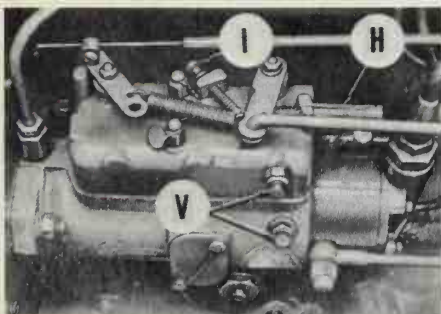

Fig. C1-1—Typical view of fuel injection pump. Loosen vent screws (V) to bleed fuel. Turn screw (I) to adjust idle speed or screw (H) to adjust high speed.
Idle speed should be 800-1000 rpm and is adjusted by turning idle speed screw (I—Fig. C1-1). Maximum governed
BLEED FUEL SYSTEM. To bleed fuel system, remove bleed screw on fuel filter body. Allow gravity to force fuel flow or operate priming lever on fuel transfer pump until air-free fuel flows, then reinstall filter body bleed screw. Loosen injection pump bleed screws (V—Fig. C1-1) and operate fuel transfer pump priming lever until air-free fuel flows, then tighten bleed screws (V). Loosen fittings for high pressure injection lines at injectors. Rotate engine crankshaft to operate fuel injection pump until air-free fuel flows from injection lines. Retighten injection lines.